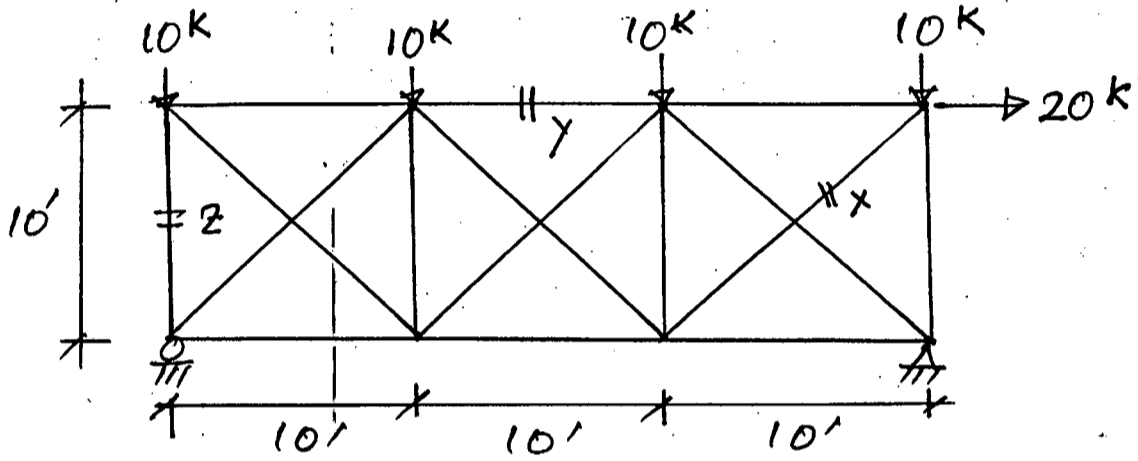

Figure 10
- (b) Determine the bar forces in members "x", "y" and "z" of the truss shown in Figure 10 assuming that the diagonals cannot support compressive forces. **(18)**